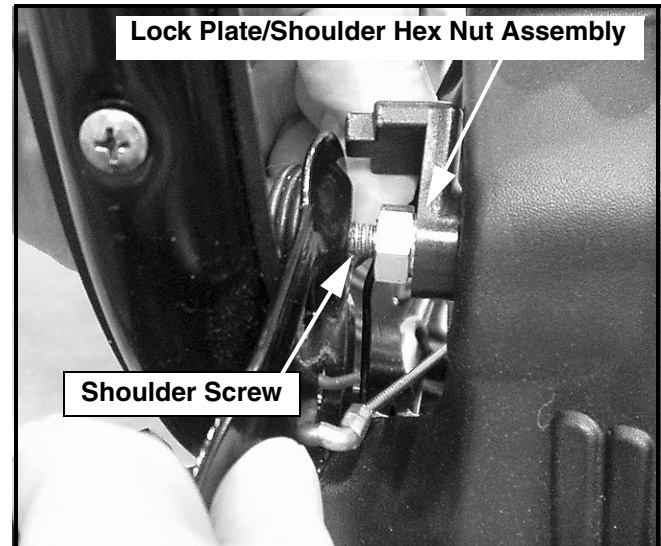

FIGURE 7
17. Using a 3/4" socket and ratchet and a 1/2" open end wrench, separate the lock plate/shoulder hex nut assembly from the shoulder screw. See Figure 7.
18. Rotate the lock plate to clear the clutch lever and opening in the handle panel. See Figure 7. Remove the lock plate/shoulder hex nut assembly and set it on the bench.